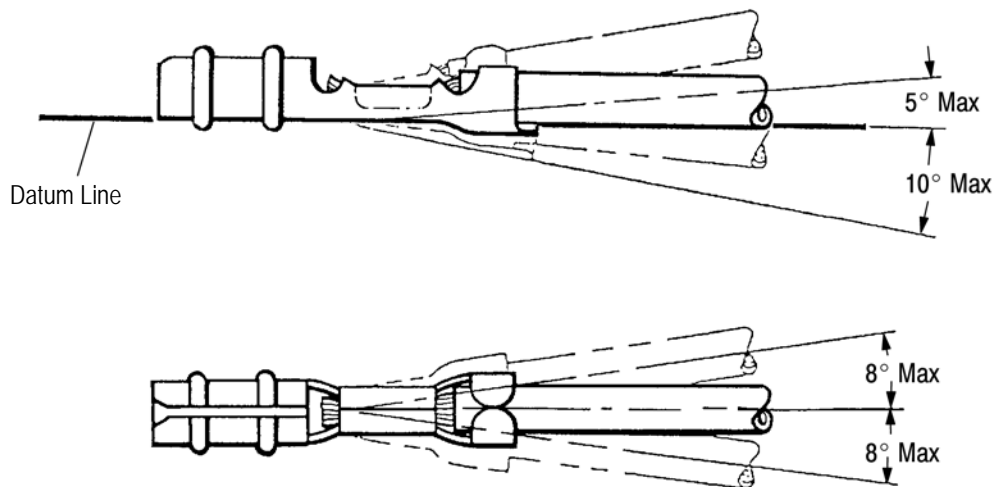

Figure 3
- 1) The contact, including the cutoff tab and burr, must not be bent above or below the datum line more than the amount shown in Figure 3.
- 2) The side-to-side bending of the contact must not exceed the limits specified in Figure 3.